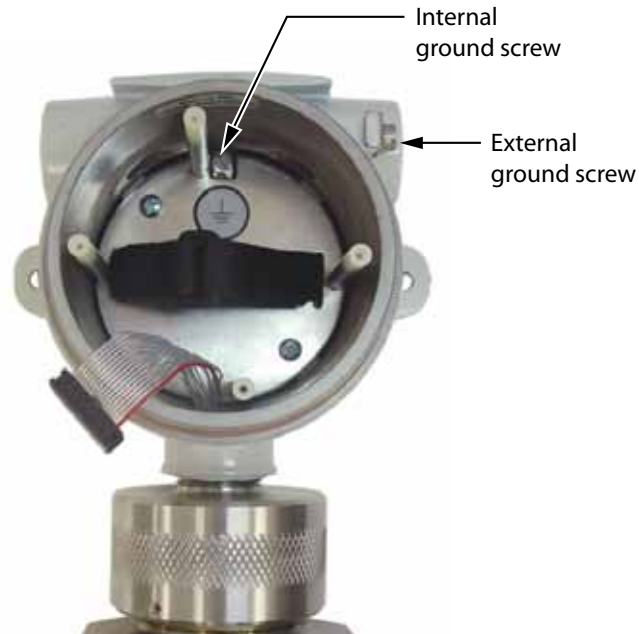

Figure C.4—Ground screw locations
6. Connect the FOUNDATION™ fieldbus power cable to TB4 on the fieldbus interface board. See Figure C.4, page C-7.
- An internal ground screw is mounted inside the enclosure near the top of the backplate. FOUNDATION™ fieldbus cable can be routed through a conduit opening in the top of the Scanner 2000 enclosure and connected to this ground screw (Figure C.4, page C-7).
If national or local electrical codes require the enclosure to be grounded, a protective earth grounding conductor may be required. To install a protective earth ground, connect an earth ground conductor to the stainless ground lug near the top of the Scanner 2000 enclosure (also shown in Figure C.4) or to the internal ground screw, and connect the other end to a ground rod or other suitable system earth ground. The ground lugs will accept wire sizes from 14 AWG solid conductor to 4 AWG stranded conductor.